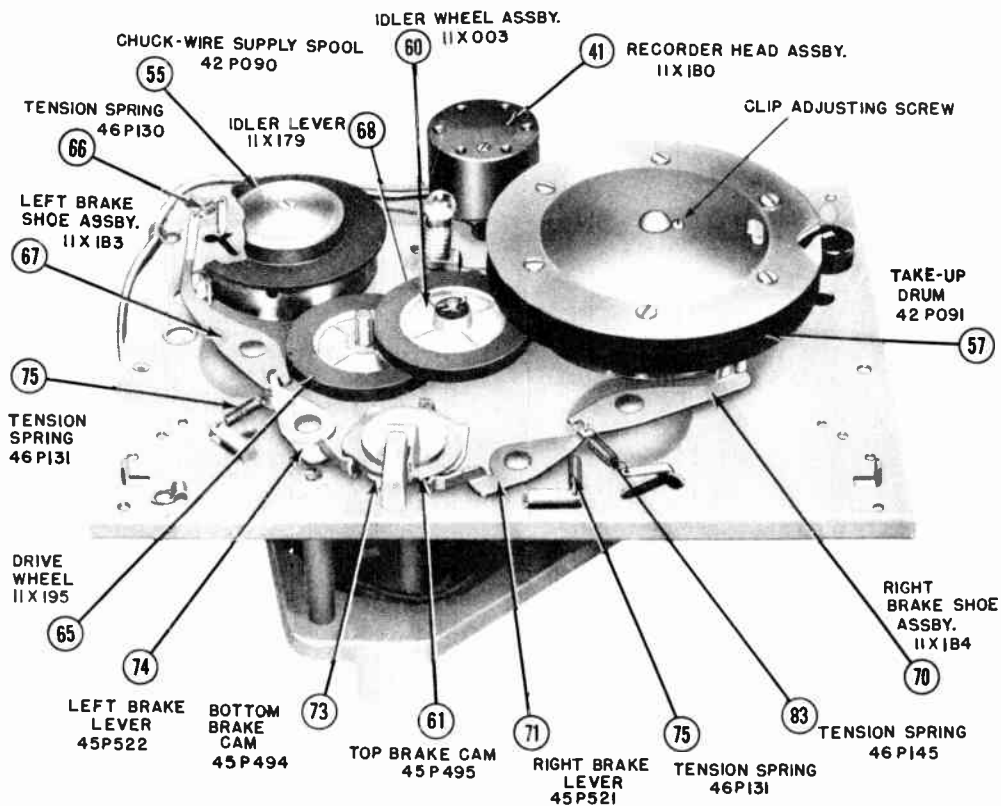

Fig. 12 — TOP VIEW — DRIVE MECHANISM (Less Cover Plate)
- 1 — Idler (Illustration 60, Fig. 12) bearing on felt washer.
- 4 — If new brake shoe assemblies (Illustrations 67 and 70, Fig. 12) are installed, apply one drop of light oil to each felt. Otherwise do not oil these felts.
Be very careful not to allow oil or grease to touch the rubber surfaces of the drive wheel (Illustration 60, Fig. 12). Any lubricant on these surfaces should be removed immediately with carbon tetrachloride. Excess lubricant on the brake felts will cause an oily surface on the supply of take-up drum. Such oil should be removed with carbon tetrachloride.